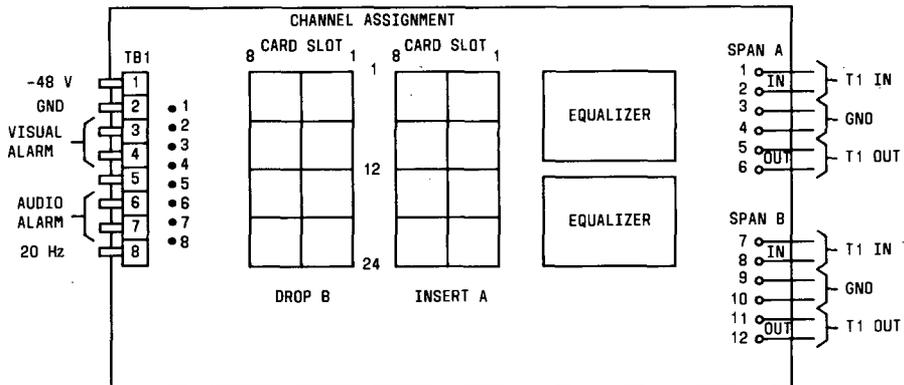

Figure 96. Equalizer Location
3. Unplug the equalizers, see Figure 96.